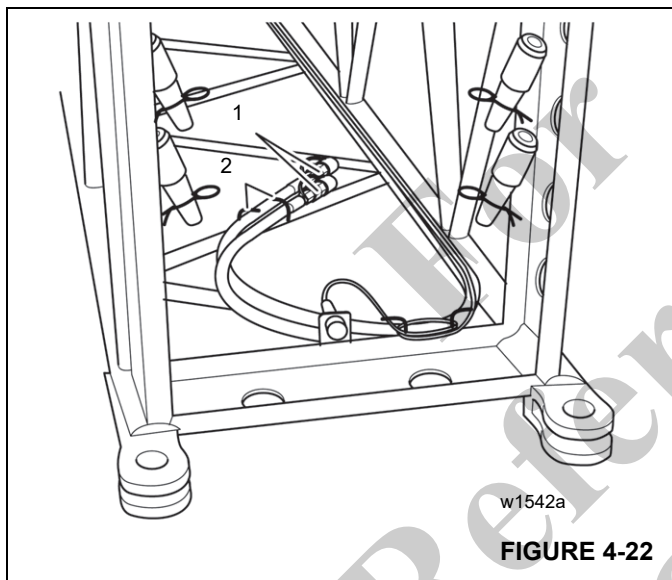

FIGURE 4-22
At the rear of the 8 m (26 ft) inserts there are two hydraulic hoses (1) with quick couplings. These hydraulic hoses can be connected on the main boom head or on a second 8 m (26 ft) insert (Figure 4-22)
For transportation, hydraulic hoses are stored in holders (2) (Figure 4-22).